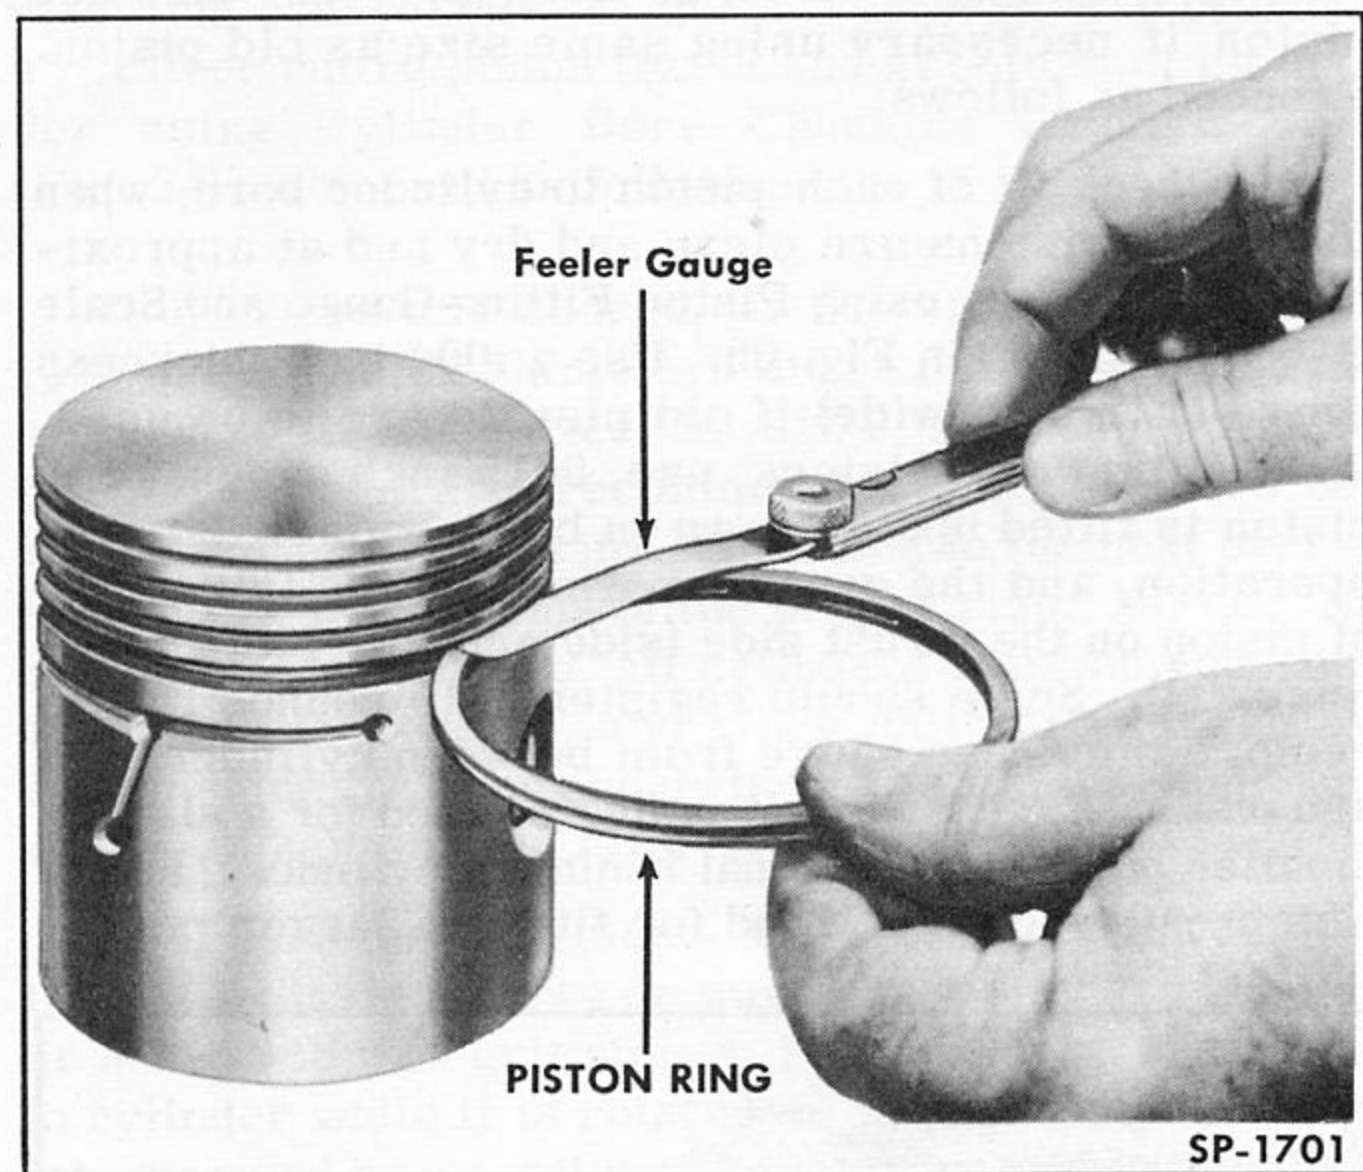

Fig. 40—Checking Piston Ring Side Clearance
6. Check width of piston ring grooves using a new piston ring and a feeler gauge as shown in Fig. 40. Insert feeler gauge between ring and piston to bottom of groove. Replace piston if ring grooves are not within allowable tolerances.